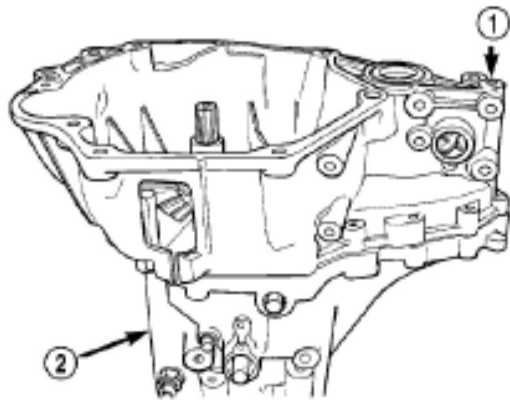
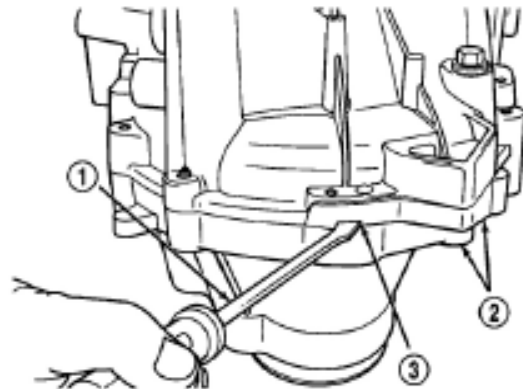

Figure 3-37 Transaxle housing
Figure 3-38 Separation of casing
(5) Insert the screwdriver into the groove nearby semi-casing locating stud (Figure 3-37) and divide the casing into two pieces (Figure 3-38).